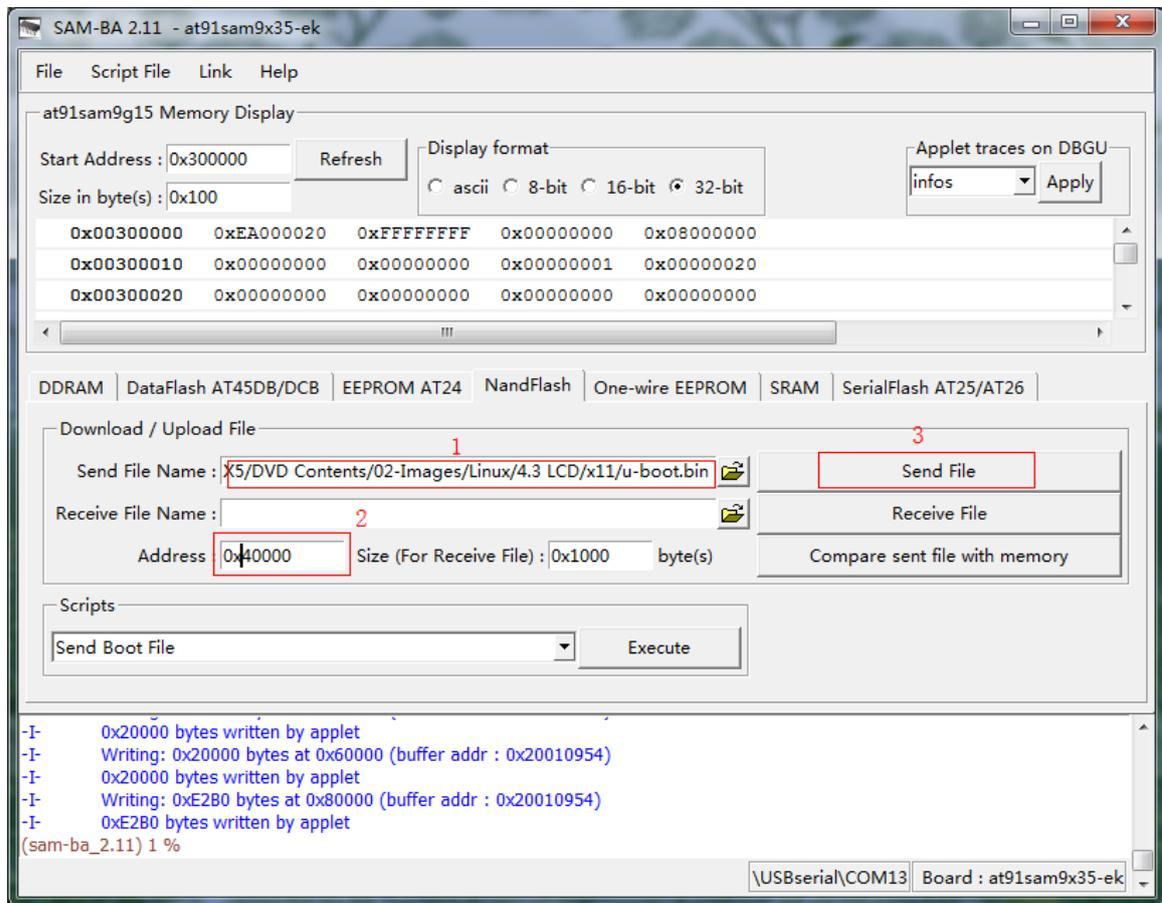

Figure 4-11
(4) Download u-boot.bin to 0x40000. Refer to figure 4-11: